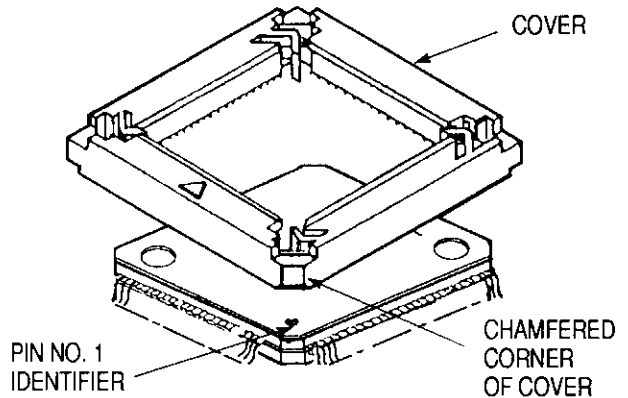

Figure 4
1. Place the PQFP on a flat surface, with the "gullwings" facing downward. Locate corner of device having pin number one identification. Align the chamfered corner of the cover with the chamfered corner of the PQFP (having pin number one identification). See Figure 4.